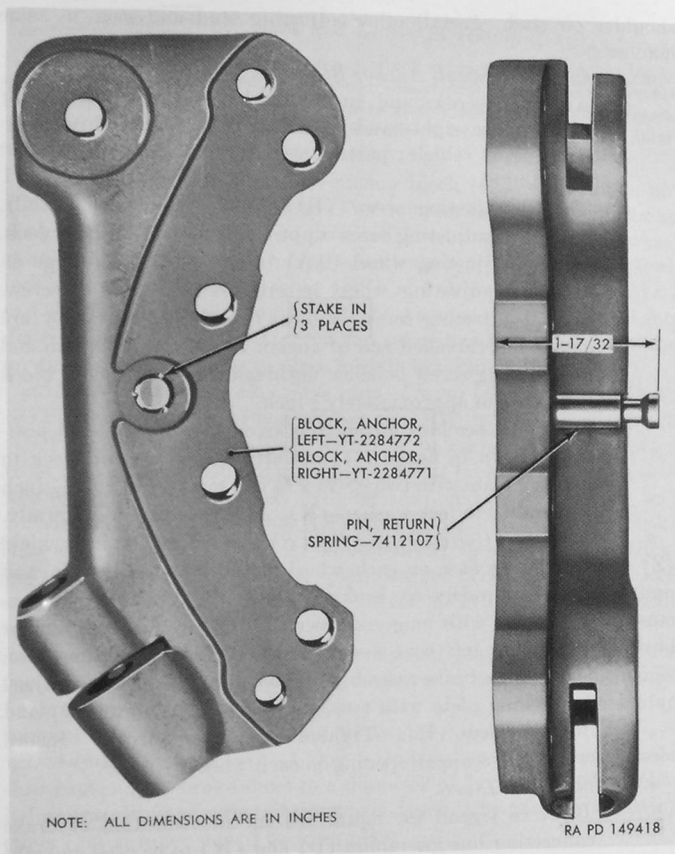

Figure 166. Return spring pin installed in anchor block.
- (6) Remove lining applier; then drill and countersink balance of holes and install rivets. Make sure lining fits firmly against shoe and that rivets are properly upset.
*b. Return Spring Pin Replacement.*—Press return spring pin (JJ) out of anchor block (CC) from inner side. Press new pin into anchor block to position shown in figure 166 and stake in place at three points.